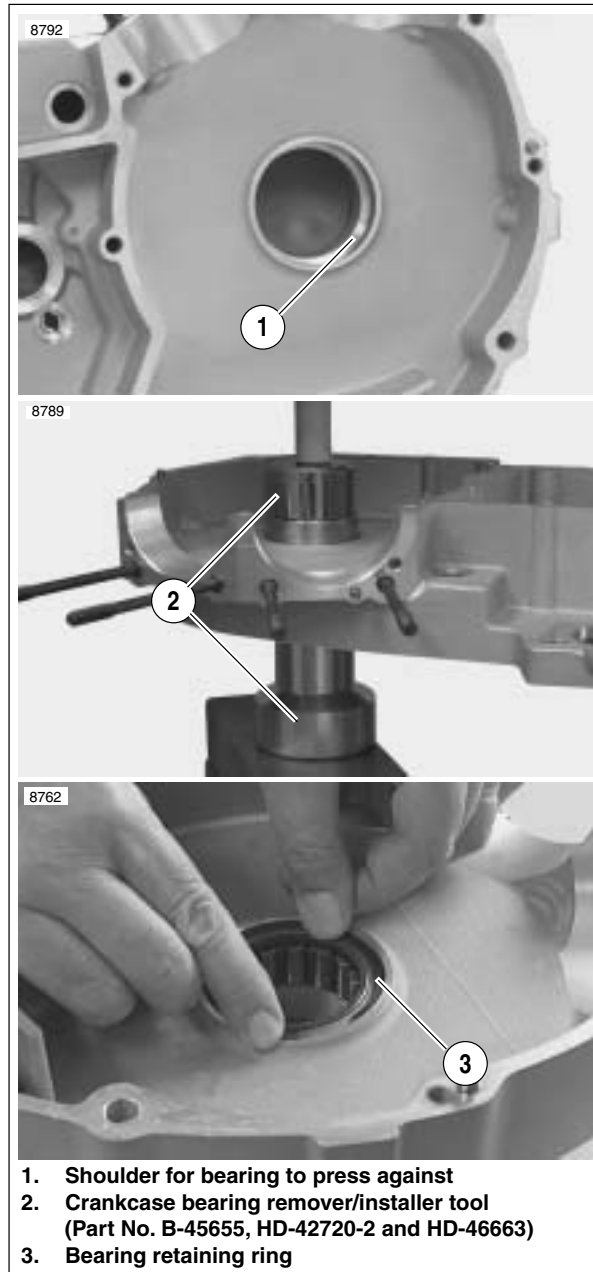

Figure 3-151. Sprocket Shaft Bearing Installation
1. See Figure 3-151. Using CRANKCASE BEARING REMOVER/INSTALLER (Part No. B-45655, HD-42720-2 and HD-46663), install sprocket shaft bearing into left crankcase half from the inside.